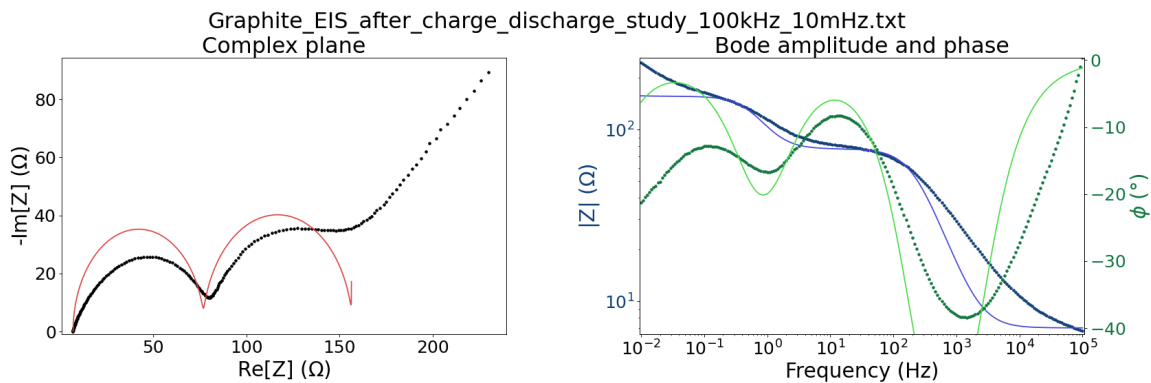

Figure 25: C||Li half-cell spectrum after tuning Q_2 .
8. Q_2 can now also be adjusted with the slider for a rough fit of the intermediate-frequency semicircle. The result should look like Figure 25.